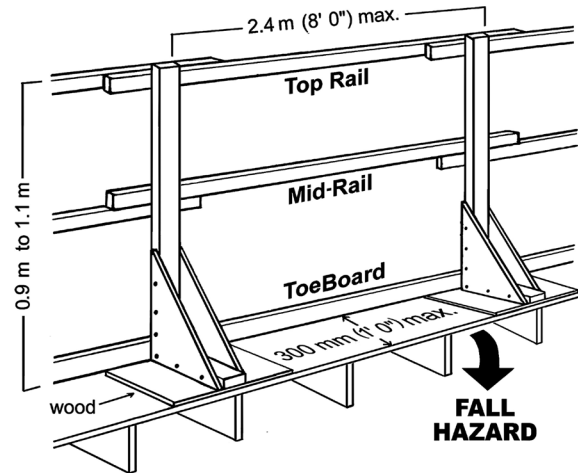

Figure 18-1: Typical Dimensions for Guardrails
Guardrails must be high enough and strong enough to resist the force of workers stumbling or backing up against them. The specifications for a typical wooden guardrail system are found in section 26.3 (4) of the Construction Projects regulation (Figure 18-1). They include: